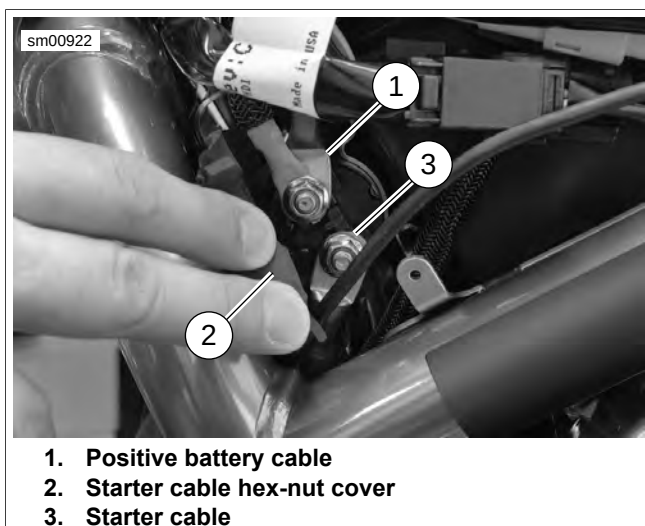

Figure 7-11. Starter Solenoid
5. See Figure 7-11. Pull back starter cable hex-nut cover (2). Note cable locations and remove cable hex-nuts and cables.